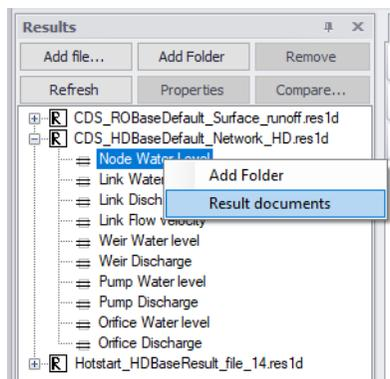

Figure 19.8 Create result documents from the Results panel via the local context menu (i.e. right-click)
- Right-click on a result file layer or result item on the Results panel (Figure 19.8).